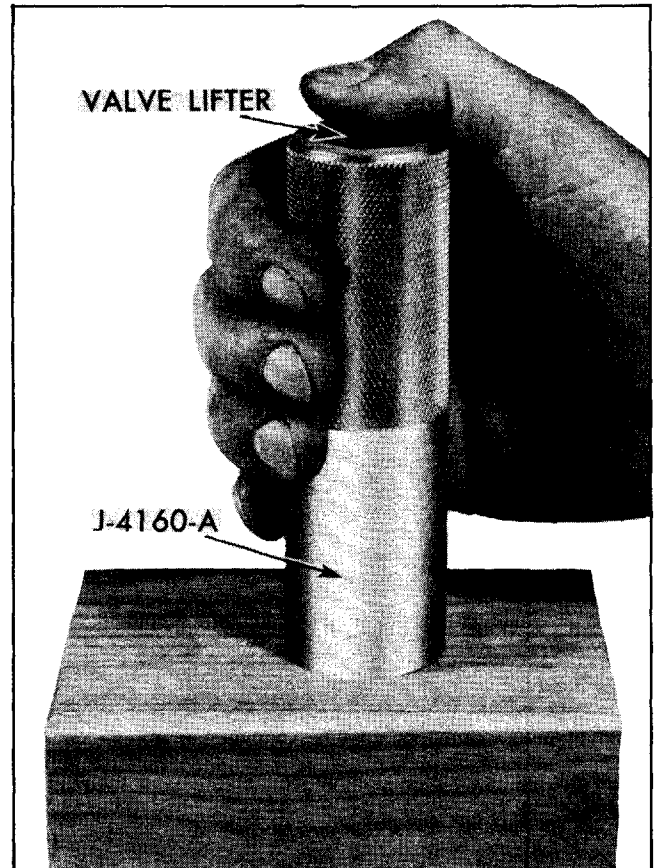

Fig. 6-48 Removing Stuck Plunger
2. Invert lifter and allow push rod seat and plunger to slide out of body. If plunger sticks in body, place lifter in large end of Hydraulic Valve Lifter Plunger Remover, J-4160-A, with push rod end of lifter downward. Hold tool firmly in hand with thumb over lifter body and sharply strike the tool against a block of wood (Fig. 6-48) until plunger falls out. **NOTE:** It may be necessary to soak a lifter having a stuck plunger in cleaning solvent for several minutes in order to remove the plunger.